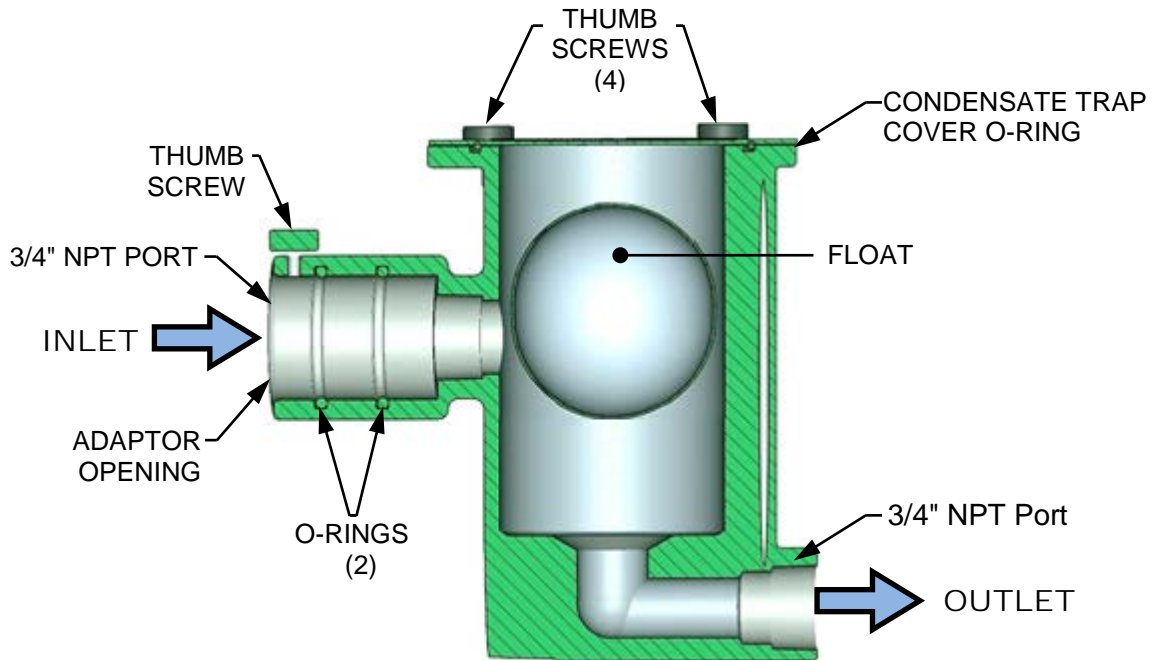

Figure 6-10. External Condensate Trap– Cross-Sections
Currently, two styles of the condensate traps are in use. Both styles perform the same functions and contain identical internal floats. However, the older style has a separate inlet adapter and the newer style contains a built-in adapter. Refer to Figure 6-10. Maintenance tasks for both styles are almost identical, however the newer style does not require an orifice gasket.
2. Remove the connections on the inlet and outlet sides of the condensate trap shown in Figure 6-10.
3. Loosen the four (4) thumbscrews securing the cover on the condensate trap. Remove the cover.
5. For older style condensate traps, remove the orifice gasket shown in Figure 6-10.